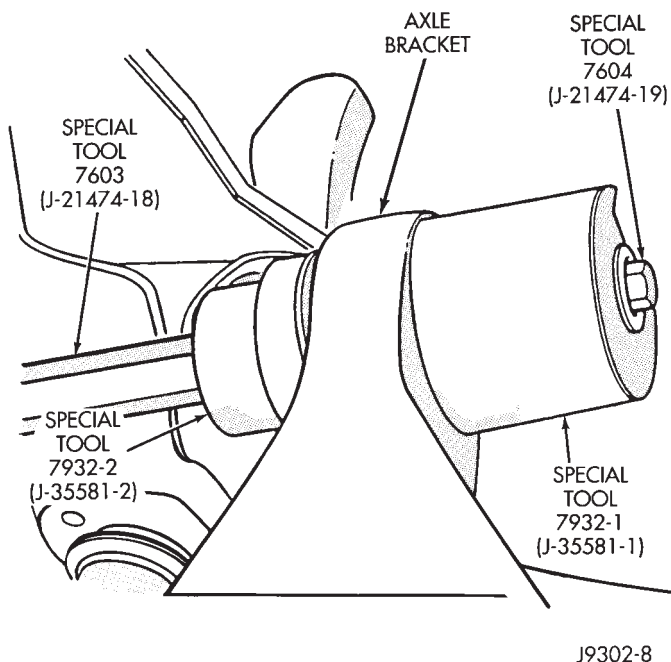

Fig. 6 Bushing Installation
(1) Position new bushing, Receiver and Installer on axle (Fig. 6).
(2) Install the bushing by tightening the Long Nut.